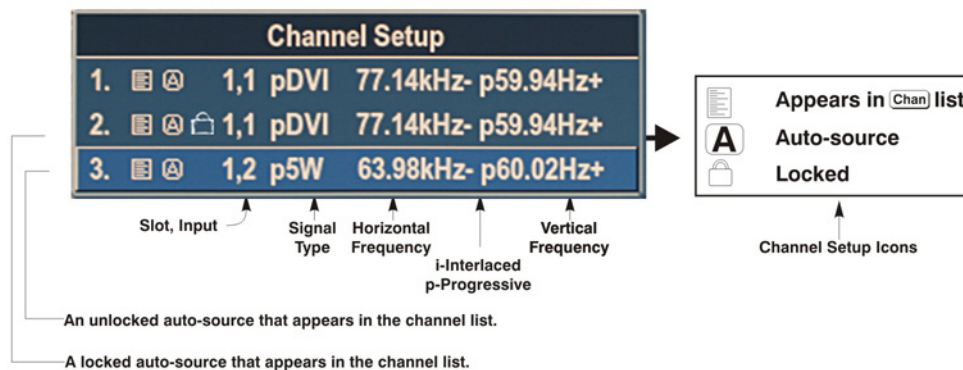

Figure 3-8 Channel Setup Menu
- Press the INPUT key to display the Main Input window, which shows the currently available input signal for each of the 4 input slots. See **Figure 3-8**. The currently selected input for the main image is highlighted. Scroll UP or DOWN through the list. Press ENTER to display the **Input** drop-down list. Scroll through the list to locate the input you require, and press ENTER again to make the selection.
- Press the appropriate SLOT key (1-4) to quickly display one of the 4 inputs connected to the projector for the Main image. Press SLOT again to select a different input. This will not bring up any menu selection, and is only applicable for the Main image.
All available channels are listed in the **Channel Setup** menu, which describes how each channel can be accessed and provides access for editing, copying, and deleting channels. Press MENU, 3 (Channel Setup). The **Channel Setup** menu displays (see **Figure 3-8**).